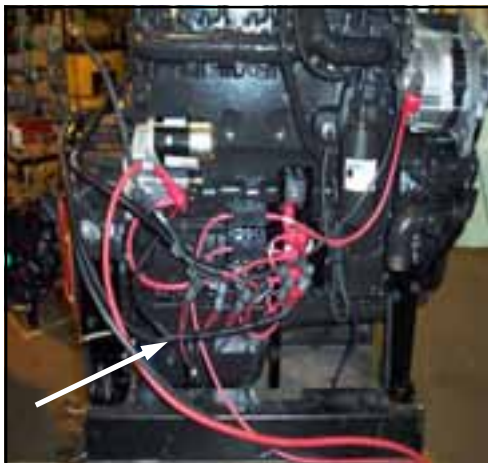

FIG 8.39
**Mounted on Engine** – The wire harnesses are protected by circuit breakers mounted on the engine (fig. 8.39). Correct fuse location and amperage is shown below. If the breakers do not reset and continue to trip, determine the cause and correct it.